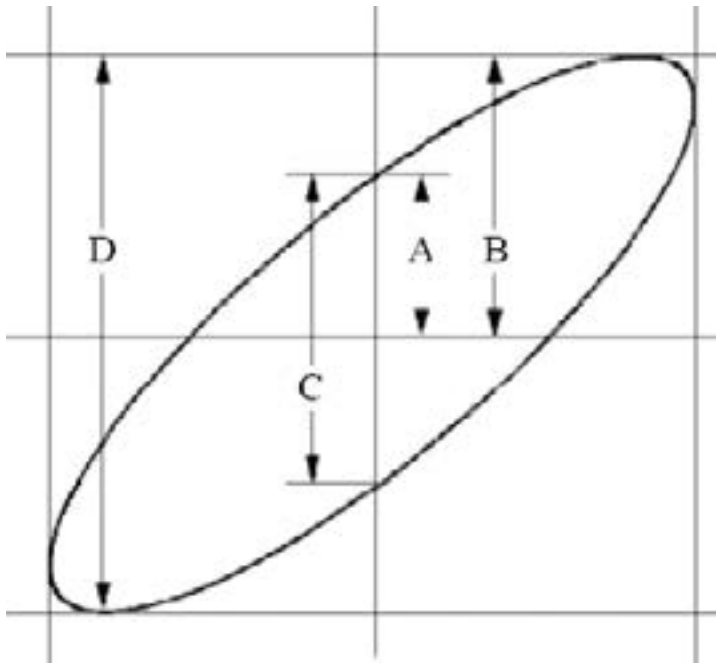

Figure 9-6 Lissajous Graph
- (1) Set the probe menu attenuation coefficient for **10X** and that of the switch in the probe for **10X** (see “**How to Set the Probe Attenuation Coefficient**”).
- (2) Connect the probe of channel 1 to the input of the network and that of Channel 2 to the output of the network.
- (3) Push the CH1 to CH4 button to turn on CH1 and CH2, turn off CH3 and CH4.
- (4) Push the **Autoset** button, with the oscilloscope turning on the signals of the two channels and displaying them in the screen.
- (5) Push **CH1** button to select CH1, turn the **Vertical Scale** knob, and then push **CH2** button to select CH2, turn the **Vertical Scale** knob, making the amplitudes of two signals equal in the rough.
- (6) Push the **Display** button and recall the Display menu.
- (7) Select **XY Mode** in the bottom menu. Select **Enable** as **ON** in the right menu. The oscilloscope will display the input and terminal characteristics of the network in the Lissajous graph form.
- (8) Turn the Vertical Scale and Vertical Position knobs, optimizing the waveform.
- (9) With the elliptical oscillogram method adopted, observe and calculate the phase difference (see Figure 9-6).